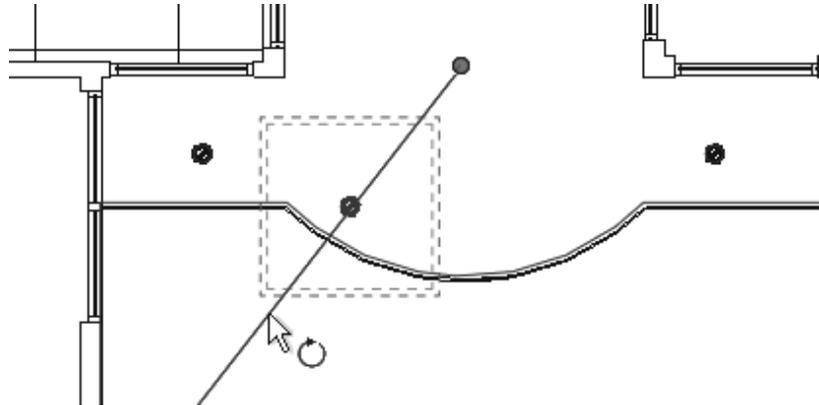

Figure 2–56
4. Drag  (Center of Rotation) or in the Options Bar click **Place** to the move the center of rotation to the appropriate location, as shown in Figure 2–56.